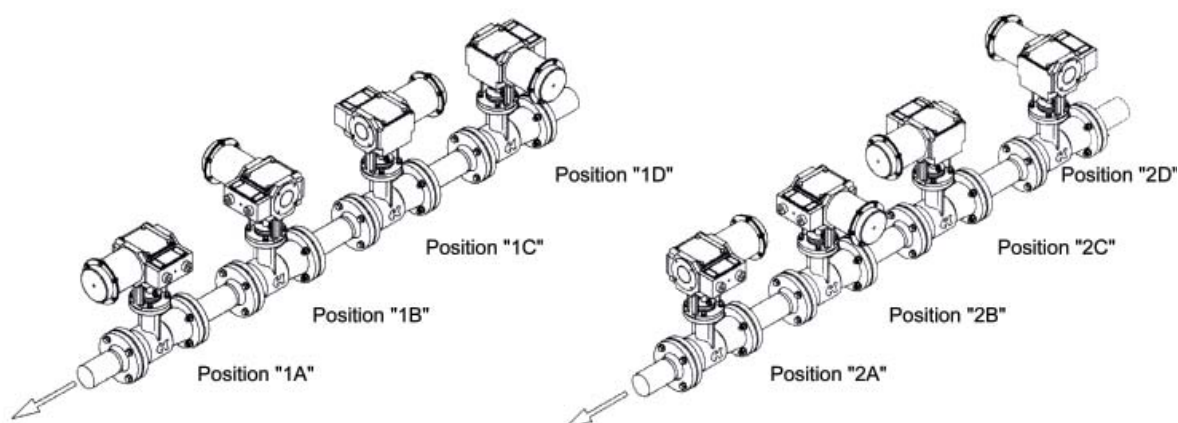

Fig. 5. Possible actuator type 99 positions to valve axis.
Adjustment of rotation angle of actuator type 99 (patent pending) via system of two levers. **Lever (22)** attached to **diaphragm (24)** plate always turns by 30° , hence stroke, pressure range and positioner feedback lever position do not change. With change in setting of **bearing pin (27)** turn angle of **crankshaft (23)** (and also valve shaft) changes too, within values 25° , 45° , 60° and 90° , which corresponds with changes in flow ratio values to 45%, 75%, 100% and 120% Kvs. In closed position of valve movement of bearing pin to crankshaft guide at the beginning of lever rotation is parallel, hence closed position of valve is maintained. **Connector (35)**, which connects actuator to valve shaft, allows turning of actuator to valve by each 90° , and since it is accessible from outside it eliminates the need for actuator or valve disassembly. Required position (see Fig.5) can be set by manufacturer as per customer's request.